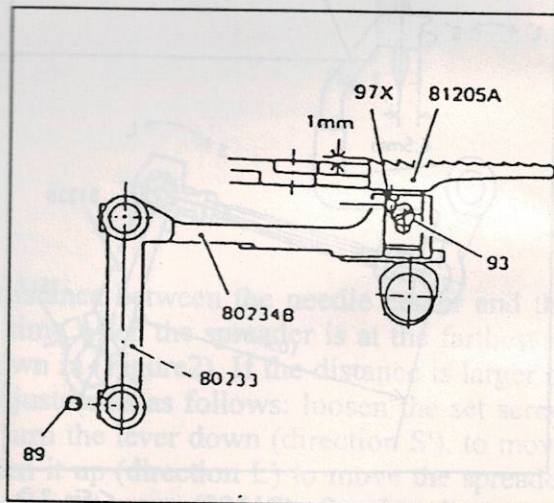

Fig. 6
The height of the feed dog is correct when, at its highest point of travel, the rearmost teeth project above the throat plate by 1mm as shown in (Figure 6). This can be accomplished by removing the feed dog (81205A), then adjusting the screw (97X) of the feed bar (80234B) to obtain the required height. Fasten the feed set screw (93) after ensuring that the feed dog is contacting the screw (97X). To adjust the feed dog within the throat plate (812241W), ensuring uniform clearance between the rows of teeth and the throat plate grooves, loosen the set screw (89) of the feed rocker (80233), and adjust the feed rocker as necessary.